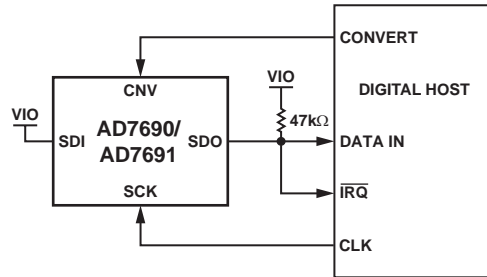
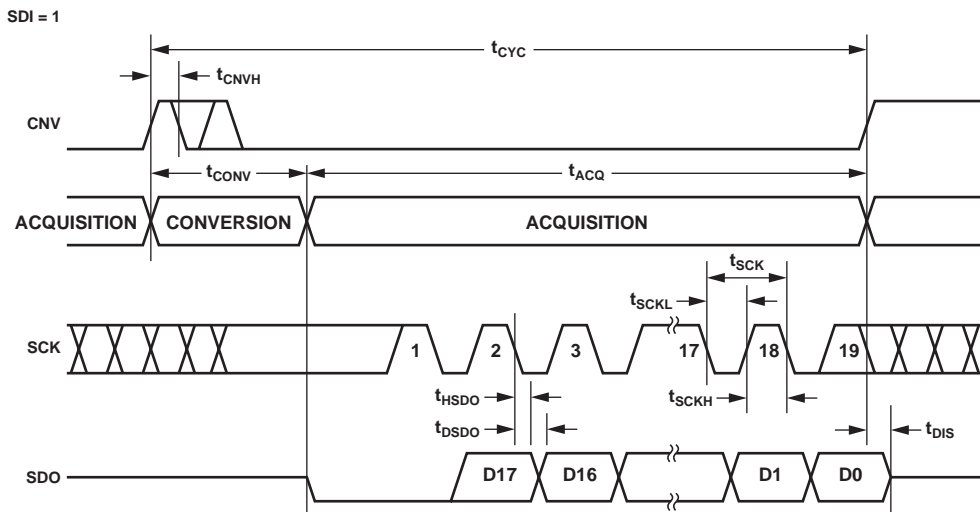
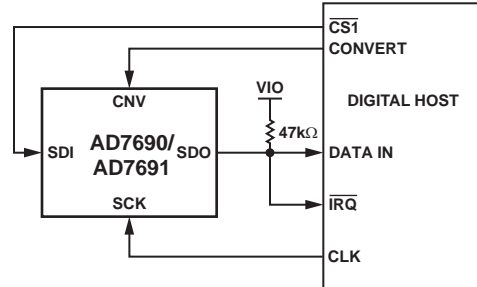
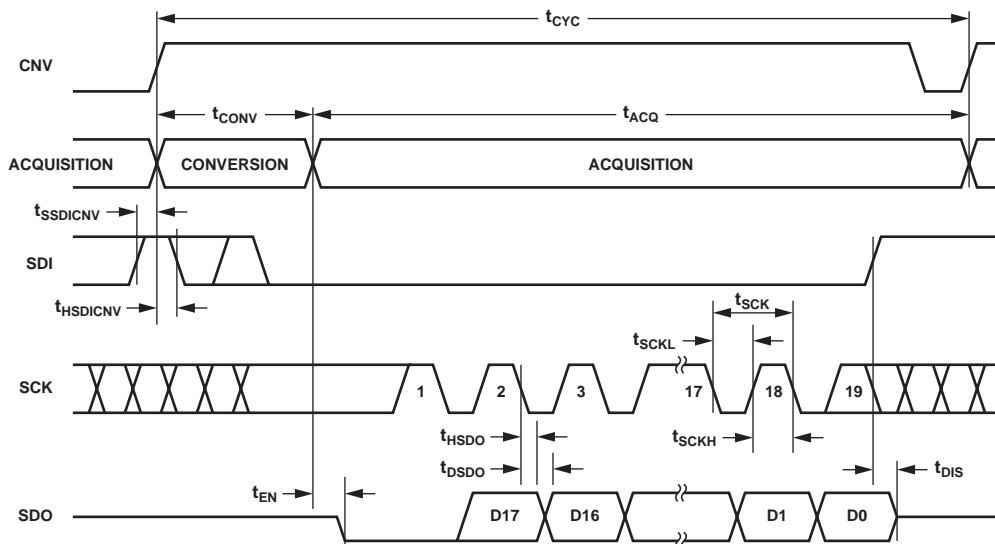

Figure 13. \overline{CS} Mode 3-Wire with BUSY Indicator Connection Diagram (SDI High)
Figure 14. \overline{CS} Mode 3-Wire with BUSY Indicator Serial Interface Timing (SDI High)
Figure 17. CS Mode 4-Wire with BUSY Indicator Connection Diagram
Figure 18. CS Mode 4-Wire with BUSY Indicator Serial Interface Timing
- In the \overline{CS} mode, if CNV or SDI is low when the ADC conversion ends (Figure 14 and Figure 18).
The connection diagram is shown in Figure 13 and the corresponding timing is given in Figure 14.
The connection diagram is shown in Figure 17 and the corresponding timing is given in Figure 18.